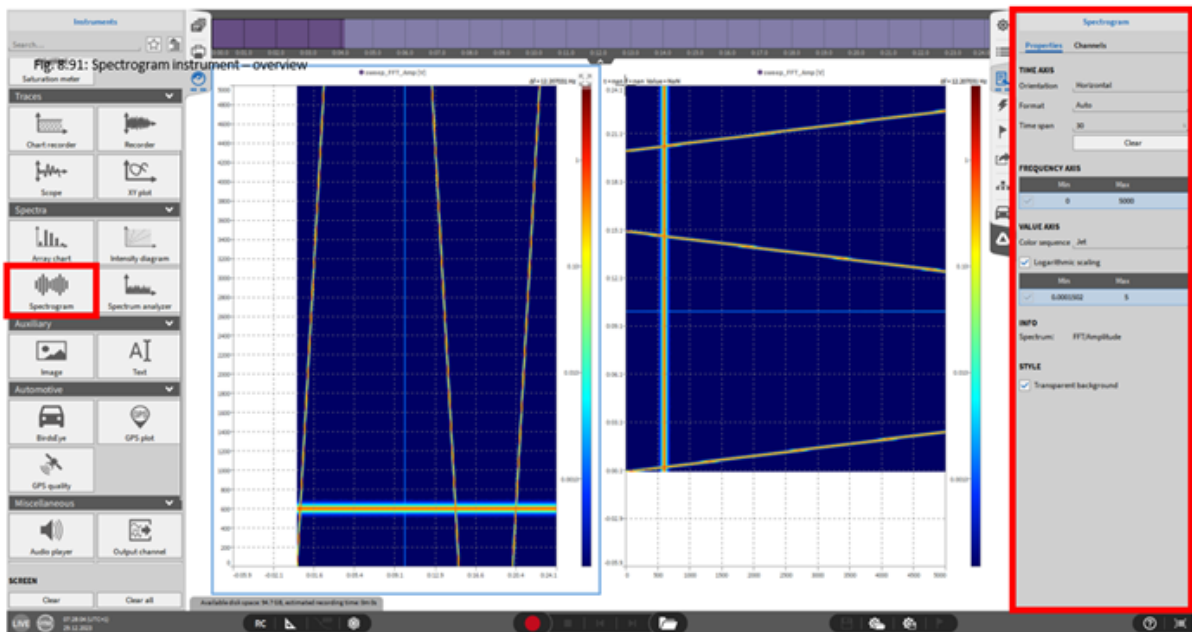

Fig. 8.51: Spectrogram instrument – overview
The elapsed time is displayed on the X-axis, the frequency on the Y-axis and the amplitude of the signal is Color-Coded to the Z-Axis (Left instrument in Fig. 8.51).
- Time Axis – Orientation: *Horizontal* orientation assigns the time axis to the X-axis of the instrument (see left instrument in Fig. 8.51) and *Vertical* orientation assigns the time axis to the Y-axis of the instrument (see right instrument in Fig. 8.51).